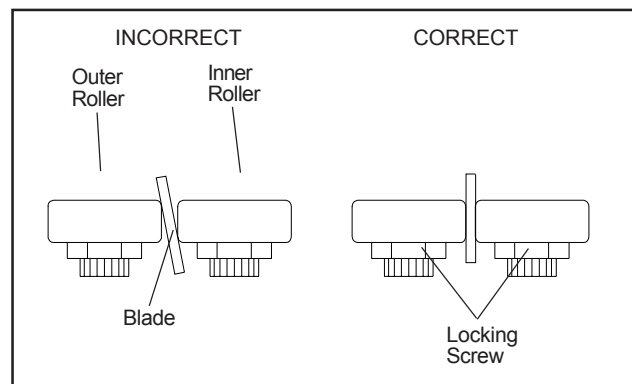

Figure 13: Blade -to-bearing orientation
4. Position the bearing by turning the bushing. Set the clearance at approximately 0.001 inch. (The blade should be in a vertical position between the bearings. (See figure 13.)